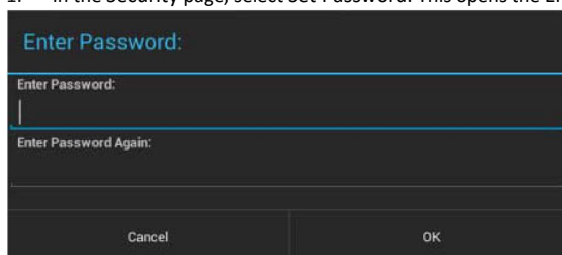

FIG. 101 Enter Password window
Set Password:	Select this option to open the Enter Password window (FIG. 101).
1. In the Security page, select Set Password. This opens the Enter Password window (FIG. 101).